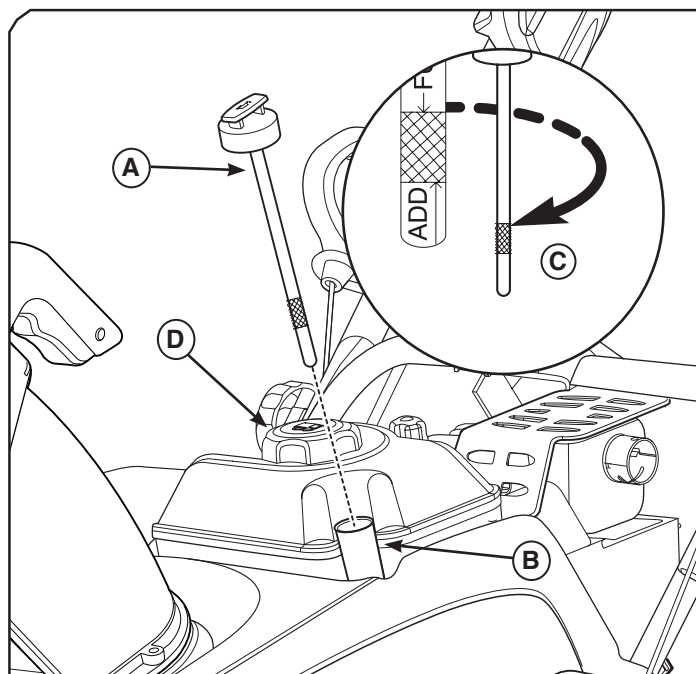

Figure 1
4. Remove the oil dipstick (A, Figure 1) and wipe it with a clean cloth.
5. Add oil slowly into the engine oil fill (B).
8. If necessary, add oil until the level reaches the full mark (C) on the oil dipstick. Do not overfill.
1. Clean the fuel cap area of dirt and debris. Remove the fuel cap (D, Figure 1).